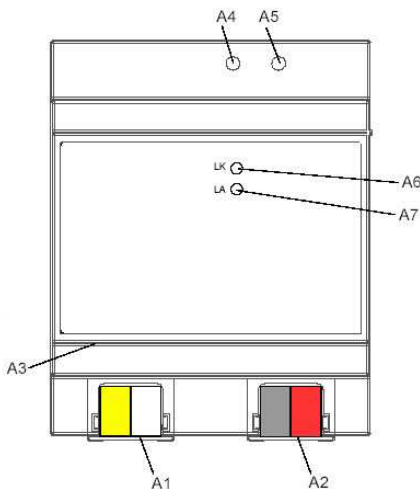

Figure 1: Location of the display and operating elements
- Connect the auxiliary power AC/DC 24V with the yellow-white bus connector terminal (Figure 1, A1).
- Connect the bus line with the black-red bus connector terminal (Figure 1, A2).
- Plug an Ethernet patch cable with an RJ45 plug into the RJ45 socket (Figure 1, A3) to connect the device with the LAN / Intranet.
- A connection is established to the network when the yellow LED marked LK (Figure 1, A6) is continuously lit. When the LED LA (Figure 1, A7) flashes data is sent to or from the device.
- Unplug the Ethernet patch cable from the RJ45 socket (Figure 1, A3).
- Remove the yellow-white bus connector terminal (Figure 1, A1) from its socket.
- Remove the black-red bus connector terminal (Figure 1, A2) from its socket.